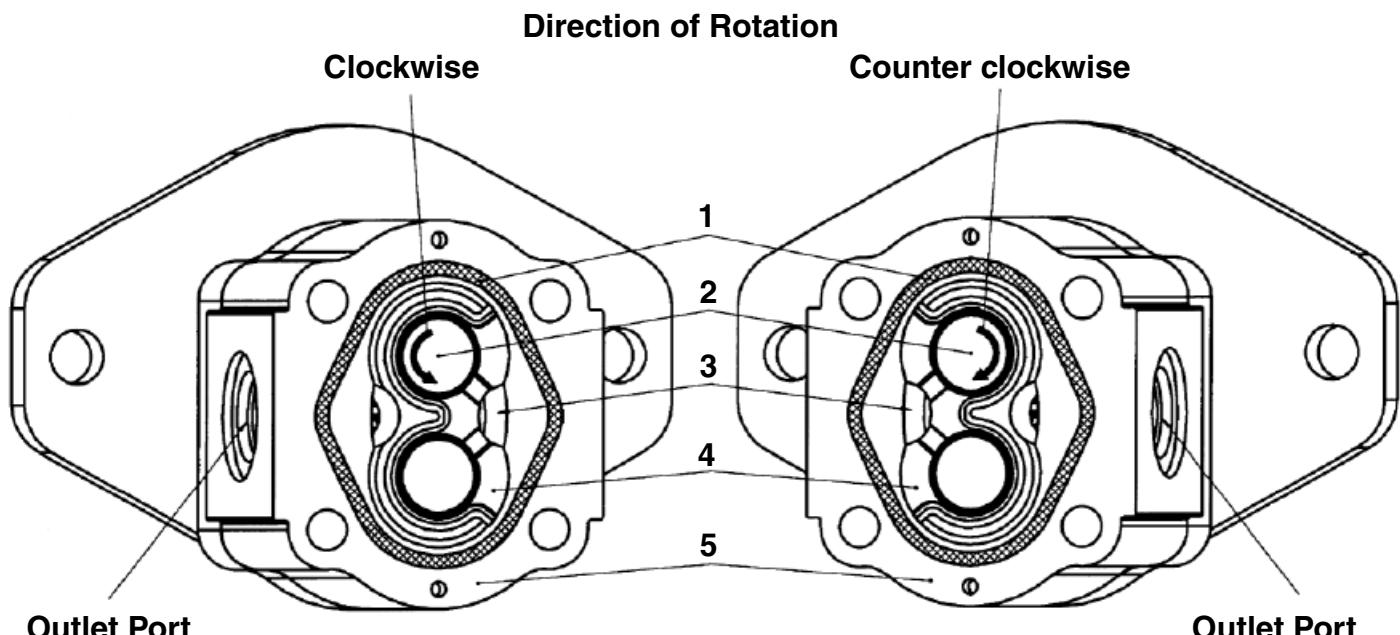

Fig 2
1. Fit the thrust block (7) 180° turned on the mounting flange, the seals (5, 6) facing to the mounting flange (15)
2. Refit the drive shaft and the driven gear (11,10) and. Fit the other thrust block (7) 180° turned on the shafts. Fit the sleeve assembly tool or the assembly sleeve (20,21) to the drive shaft (11).
3. Fit the thrust blocks (7) and the gears (10,11) with the assembly sleeve (20) to the mounting flange (15). Make sure that the seals are upper-most. See Fig. 2. Remove the assembly tool